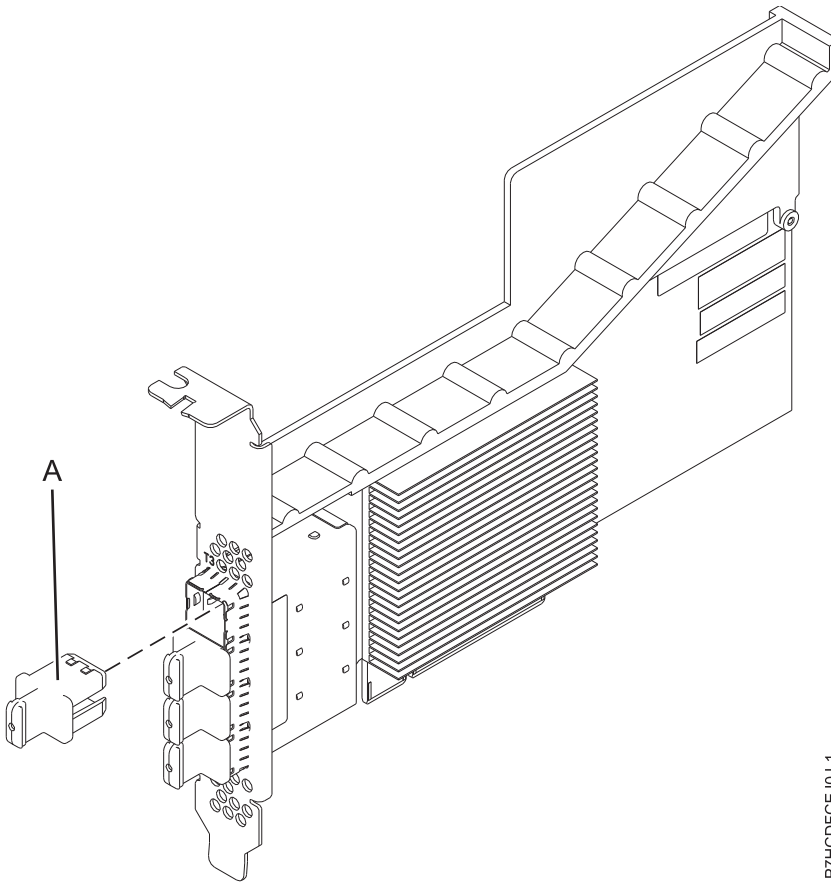

Figure 17. PCIe3 SAS Tape Adapter
The PCIe3 SAS Tape Adapter Quad-port 6Gb x8 is a PCI Express (PCIe), generation 3, RAID SAS adapter that has a low-profile, short-form factor, but packaged for full height installation. The adapter is used in high-performance and high-density, serial attached SCSI (SAS) applications. It supports the attachment of SAS tape by using four mini SAS high-density (HD) x4 connectors that allow the physical links to be used in various narrow and wide-port configurations. SAS tape attachment is only supported in a single adapter configuration and cannot be mixed with SAS disk on the same adapter. The adapter does not have write cache. Figure 17 on page 42 shows the PCIe3 SAS Tape Adapter Quad-port 6Gb x8.
Figure 17 on page 42 shows the adapter. The connector plug (A) is installed in an empty port and prevents damage to that port whenever a cable for the adjacent port connectors is plugged-in or removed.